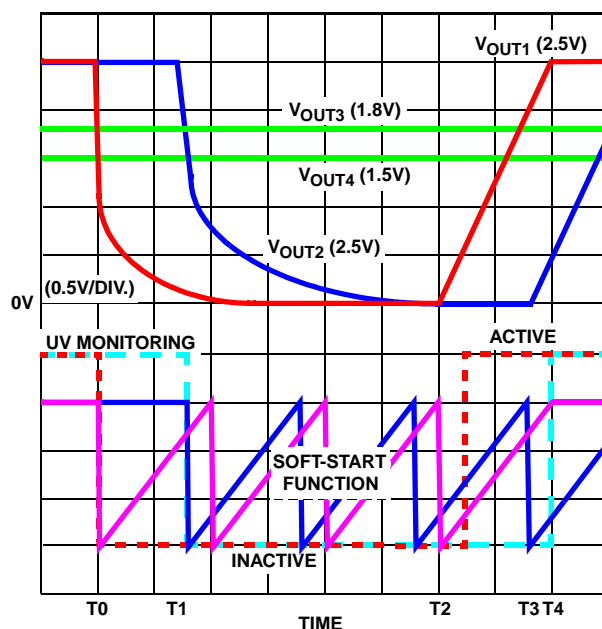

FIGURE 2. OVERCURRENT/UNDERVOLTAGE PROTECTION RESPONSE
A sustained overload (undervoltage on linears or overcurrent on the PWM) on any output results in an independent shutdown of the respective output, followed by subsequent individual re-start attempts performed at an interval equivalent to 3 soft-start intervals. Figure 2 describes the protection feature. At time T0, an overcurrent event sensed across the switching regulator's upper MOSFET (rDS(ON) sensing) triggers a shutdown of the VOUT1 output. As a result, its internal soft-start initiates a number of soft-start cycles. After a three-cycle wait, the fourth soft-start initiates a ramp-up attempt of the failed output, at time T2, bringing the output in regulation at time T4.
As overcurrent protection is performed on the synchronous switcher regulator on a cycle-by-cycle basis, OC monitoring is active as long as the regulator is operational. Since the overcurrent protection on the linear regulators is performed through undervoltage monitoring at the feedback pins (FB2, FB3, and FB4), this feature is activated approximately 25% into the soft-start interval (see Figure 2).